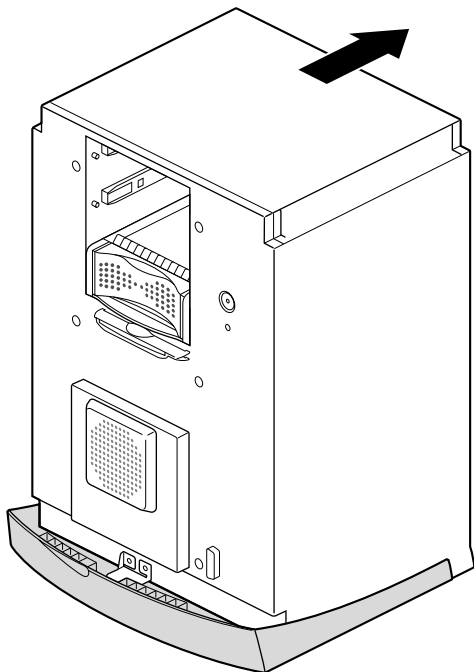

Figure 7-34 Sliding the Chassis Backward
3. While pressing down on the tab, slide the chassis back about one and one half inches, until it stops. See Figure 7-34.